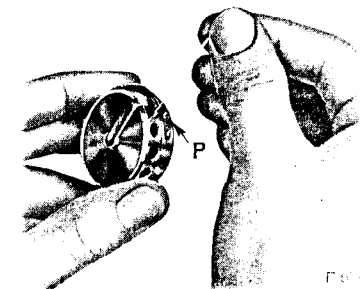
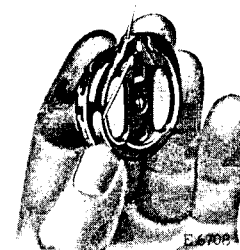

FIG. 11
FIG. 12
Then close the latch (O) and pull the thread into the slot in the edge of the bobbin case as shown in Fig. 11, draw the thread under the tension spring and through the delivery eye as shown in Fig. 12.
The tension on the bobbin thread is regulated by the screw (P, Fig. 11, page 9) which is nearest the centre of the tension spring on the outside of the bobbin case. To increase the tension, turn this screw over to the right. To decrease the tension, turn this screw over to the left.